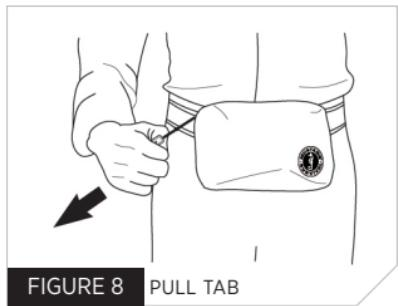
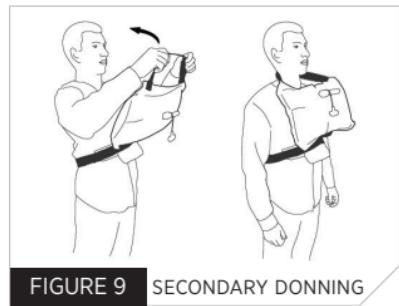
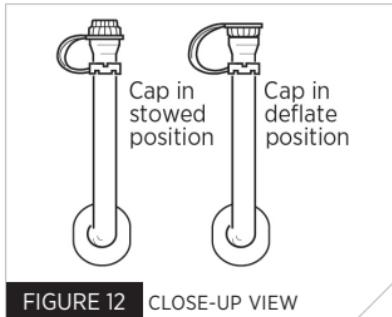

FIGURE 8 PULL TAB
FIGURE 9 SECONDARY DONNING
FIGURE 12 CLOSE-UP VIEW
Activate the inflation system by jerking firmly downward on the pull-tab (Fig. 8). The PFD should fully inflate within five seconds. Put the neckstrap over your head to secure the bladder against your torso (Fig. 9).
Remove the cap from the end of the oral inflation tube and blow into the tube until the flotation device is fully inflated (Fig. 10). Place the oral tube cap back in the stowed position (Fig. 12). Put the neckstrap over your head to secure the bladder against your torso (Fig. 9).
1. To deflate the PFD, reverse the oral inflation tube cap and insert it into the valve or depress the valve with your fingertip. The cap will not lock in the deflate position, so it is necessary to hold it in place (Fig. 12).
2. Gently squeeze the PFD until all air or gas has been expelled. Put the inflation tube cap back in its stowed position on the oral inflation tube (Fig. 12). Be sure to remove all residual air, this may require orally inflating the bladder to remove excess CO2.